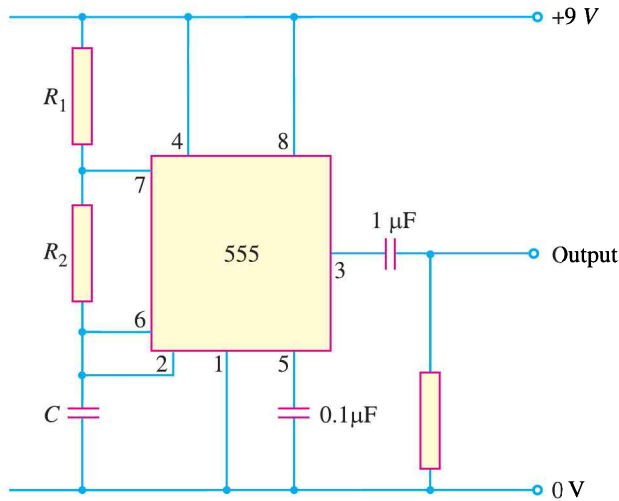

Fig. 23.18
(iv) **The 555 Timer as astable multivibrator.** Fig. 23.18 shows the 555 timer as an astable multivibrator. Note that the circuit contains *two resistors (R_1 and R_2) and one capacitor (C) and does not have an input from any other circuit.* The lack of a triggering signal from an external source is the circuit recognition feature of the astable multivibrator.
Example 23.3. Determine the frequency of the circuit shown in Fig. 23.18. Given that $R_1 = 3 \text{ k}\Omega$; $R_2 = 2.7 \text{ k}\Omega$ and $C = 0.033 \text{ }\mu\text{F}$.